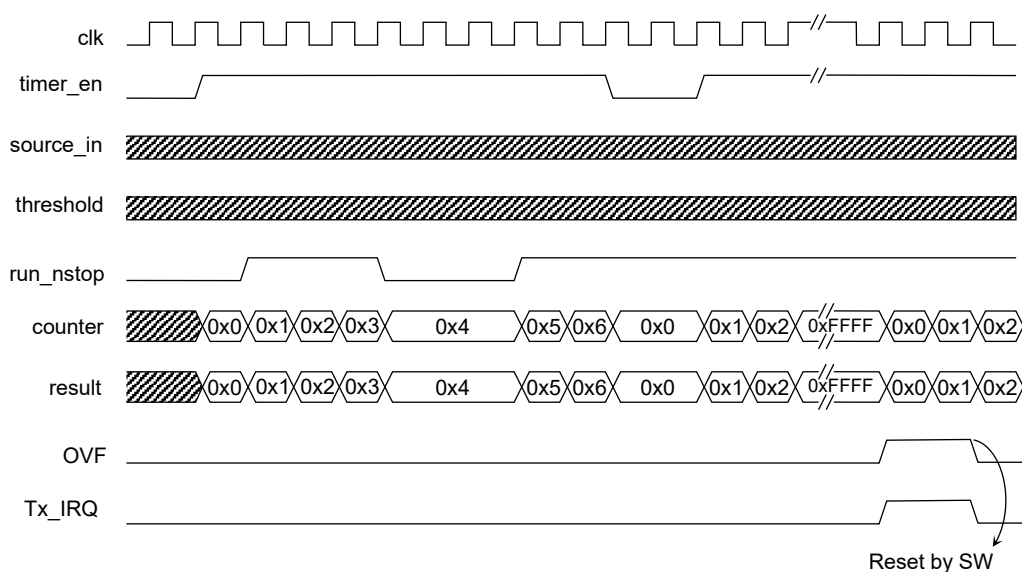

Figure 1-10: Timer operation in start/stop timer mode
In this mode, the threshold value defined by the threshold register is irrelevant. Input source signals are not used in this mode of operation. Figure 1-10 shows the operation of the timer in start/stop timer mode.
- In start/stop timer mode (`TMODE = 0x8`), this bit indicates when the timer-counter has reached its maximum value (`0xFFFF`) and rolled over to `0x0000`. This scenario is shown in Figure 1-10